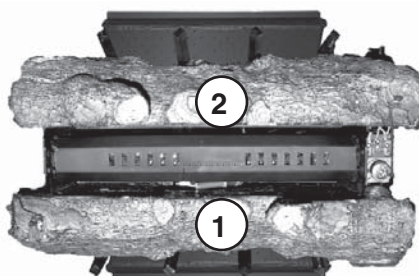

Fig. 20-1
1. Both bottom logs are equipped with specific indentations for both the valve (Log #1) and the ODS pilot (Log #2). Position the logs according to these cutaways, as shown in Fig. 20-1.